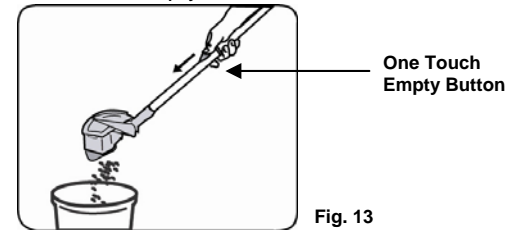

Fig. 13
2. Lift out the dust container, which is connected to the handle. Hold over a trash bin and push down on the no touch empty button located on the handle. (Fig. 13)